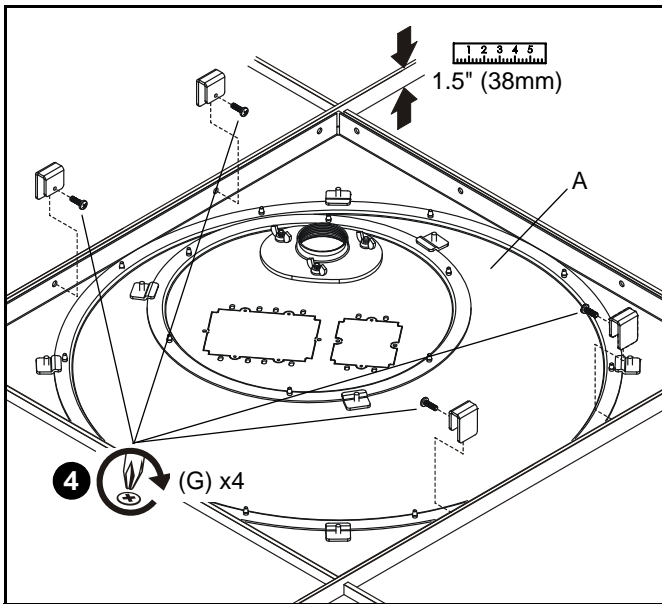

Figure 9
3. Reinstall tray (A).
4. Install clips (B) with screws (G) (See Figure 9). Ensure clips (B) engage flanges on tray (A) and primary (1-1/2" (38mm) high) rails of ceiling framework.